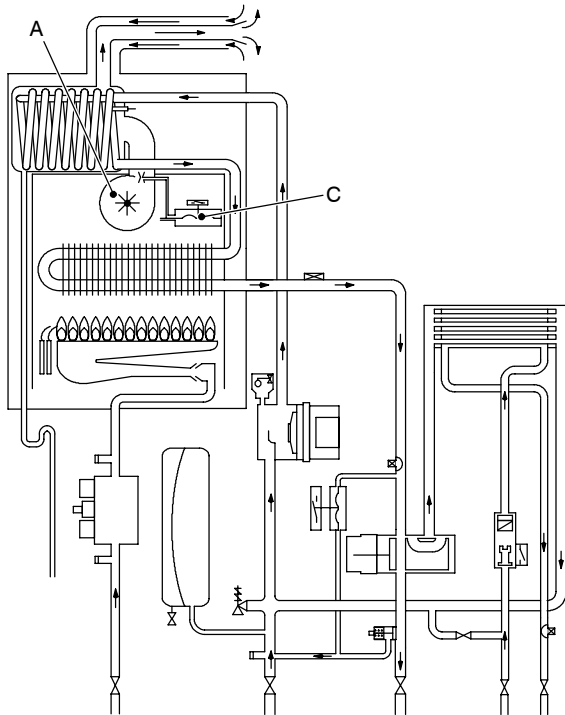
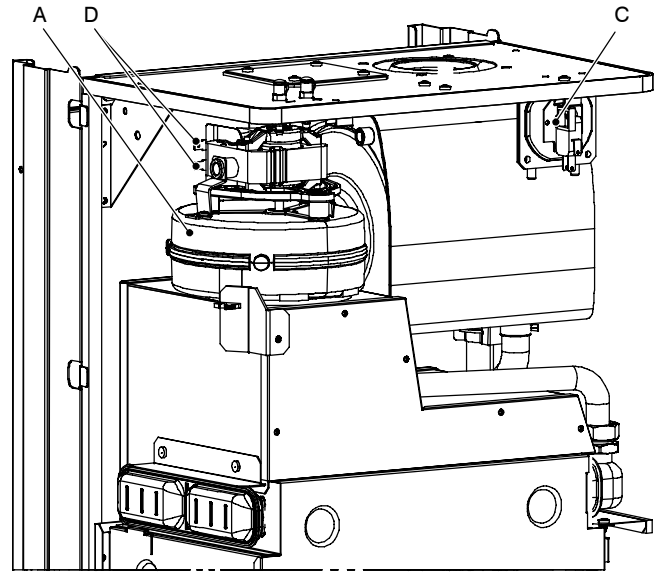
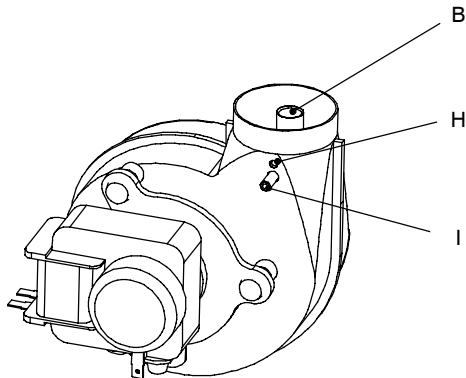

Fig. 67
Fig. 68
Fig. 73
The function of the Fan A (Fig. 67 and Fig. 68) is to force the products of combustion through the condensing heat exchanger to the outside air via the flue system.
Its correct functioning is controlled by means of a system incorporating a built in venturi device (B in Fig. 73) and an Air pressure switch C (Fig. 67 and Fig. 68) .
- 2 Disconnect the connectors D (Fig. 68) and measure the electrical resistance of the motor that has to be about:
- 2 Disconnect the connectors *D* and the earth connection *E* (Fig. 68).